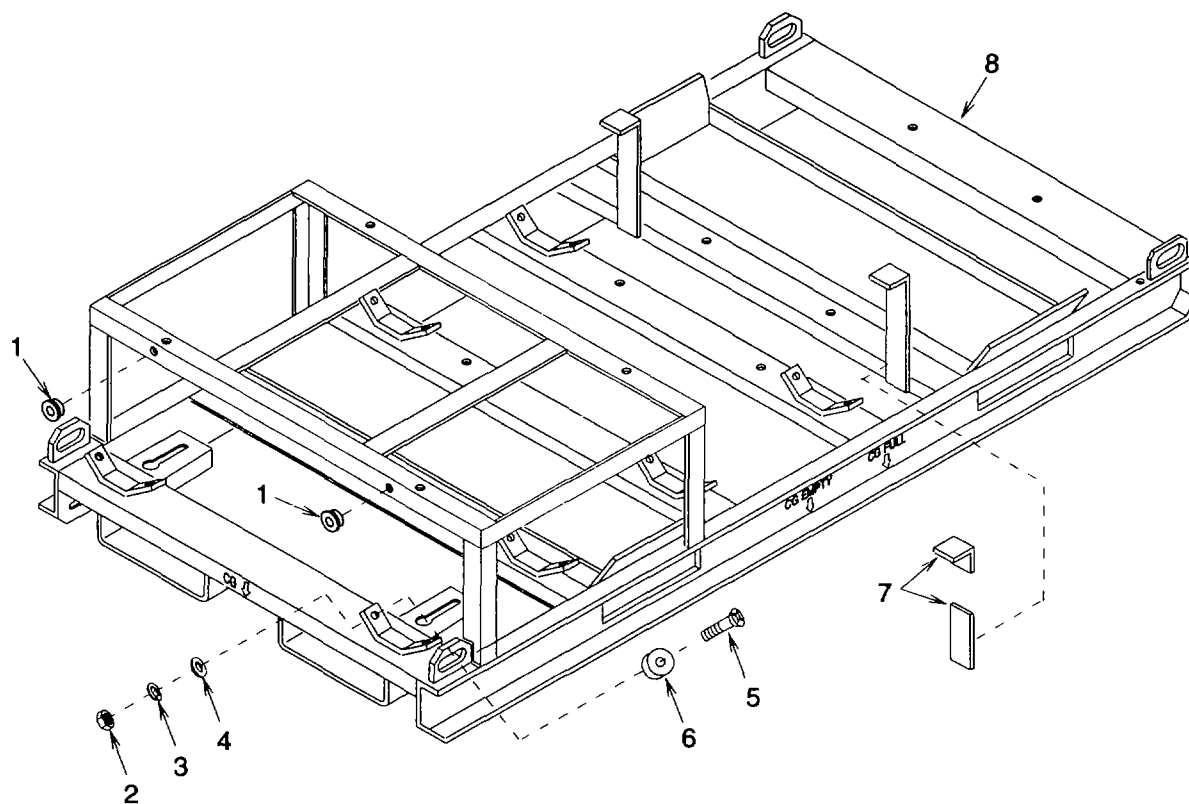

Figure 4-27. Skid Frame Repair Items
**a. Disassembly (See figure 4-27.)**
- (1) Remove two bushings (1).
- (2) Remove 16 nuts (2), lock washers (3), flat washers (4), screws (5), and slide buttons (6). Discard lock washers.
- (3) Remove two sets of pads (7).
- (4) Remove any adhesive remaining on frame (8) surface using safety solvent cleaner and a stiff brush or rag.
- (5) Be sure frame (8) surface is clean and free of any dirt or oils.